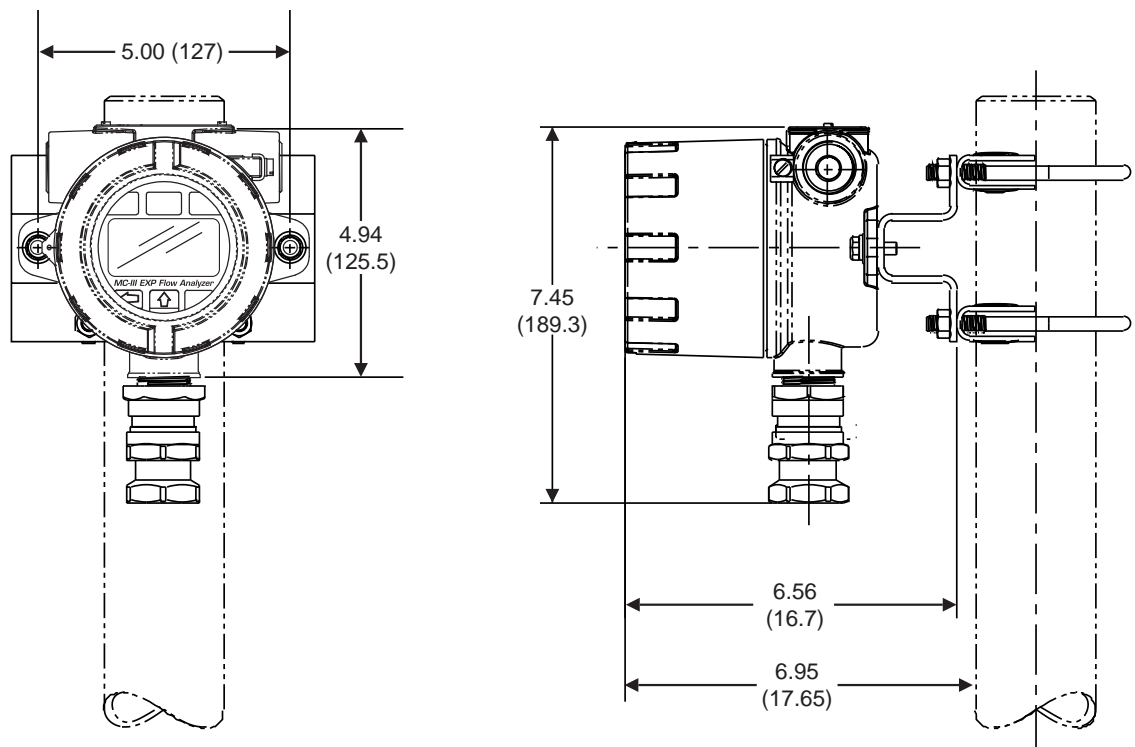

Figure 2.4—Remote mount on a 2-in. pole using a NuFlo hardware kit (Part No. 9A-30028004)
- Remote-mount the device to a 2-in. pole using a NuFlo hardware kit (Figure 2.4, page 16). Pole mounting may be preferred where limited space or pipe vibration prohibits direct-mount installation. For best results, install the device as near as possible to the meter to minimize the length of explosionproof signal cable that must be used for communications. Stranded, shielded cable is recommended.